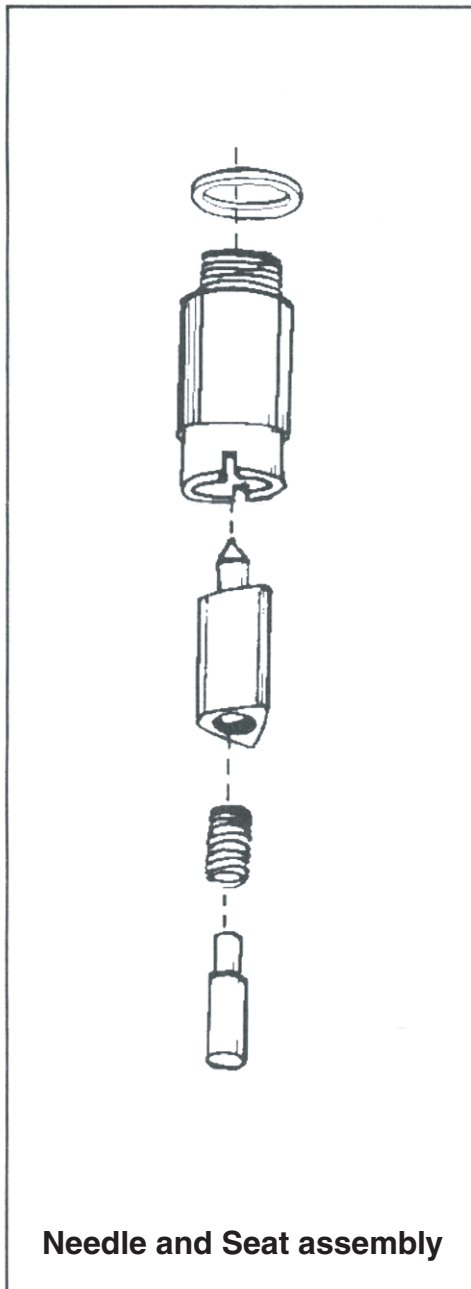
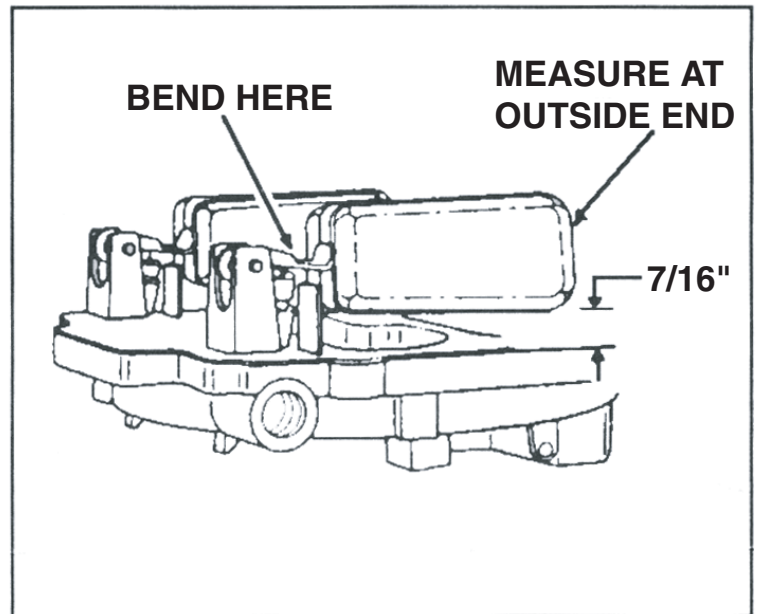

Figure 1
Figure 2
- ☞ **Please study these instructions** carefully before installing your Off-Road needle & seat assembly. If you have any questions or problems, do not hesitate to contact our **Technical Hotline at: (800) 416-8628** from 7:00 am to 5:00 pm, Monday through Friday, Pacific Standard Time or e-mail us at: [edelbrock@edelbrock.com](mailto:edelbrock@edelbrock.com).
- ☞ Remove original needle and seat assembly and replace with #1465 (Figure 1). To reset float level, see Figure 2 for proper offroad setting (7/16").